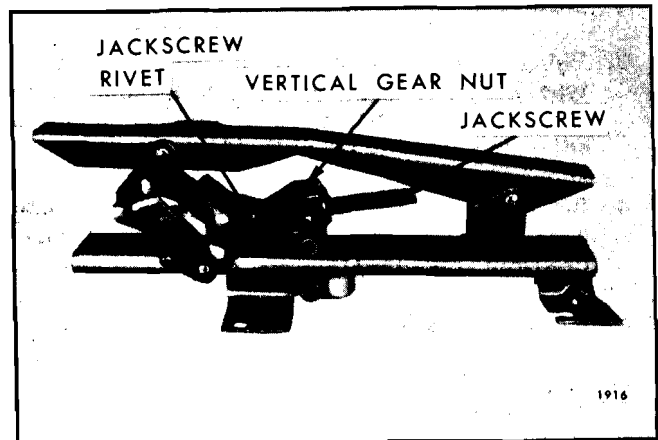

Fig. 15-13—Four-Way Seat Adjuster - "A" Styles
3. As a bench operation, remove jackscrew-to-adjuster linkage attaching rivet and remove jackscrew from adjuster assembly (Fig. 15-13).